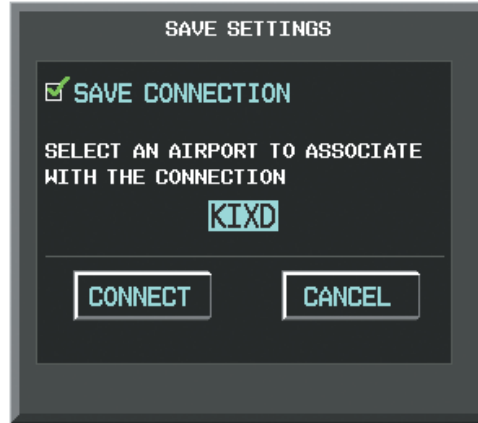

Figure 8-108 Save Connection
- a) Press the **ENT** Key. A checkmark is placed in the checkbox and the cursor moves to the airport field as shown in Figure 8-108.